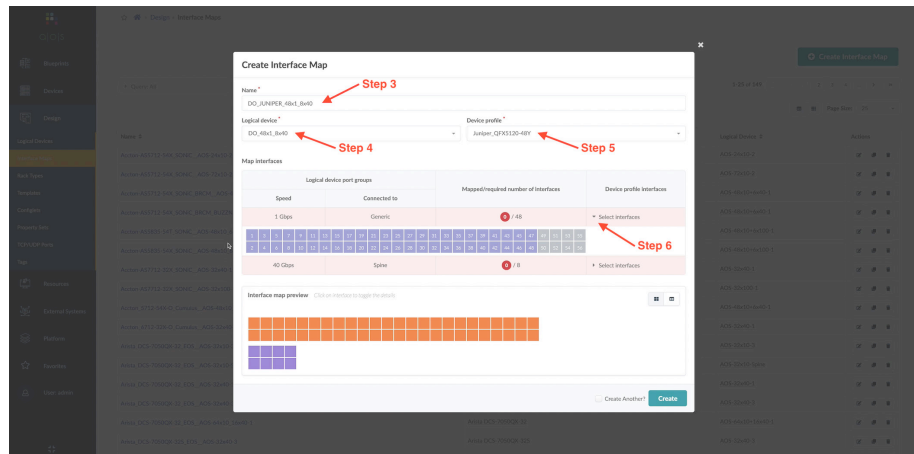

Figure 3.7 Creating Interface Mappings in Apstra
Step 3: Name the Interface Map. See Figure 3.7.